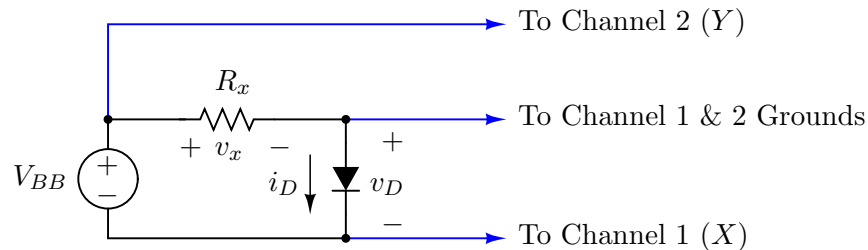

Figure 4: Note that Channel 1 (X) will show $-v_D$ instead of v_D .
2. The voltage on Channel 1 (X) in Figure 4 will be $-v_D$ not v_D . You will need to change the polarity on the scope to display ($-X$) so that positive values of v_D scan to the correctly on the display.
Connect the circuit shown in Figure 4. You are going to use the oscilloscope in the X - Y mode, which is different from the usual time-base sweep mode. We will also use the storage feature on the digital oscilloscope. Here, we want to measure v_D along the x -axis (Channel 1) and i_D (or equivalently v_y) along the y -axis (Channel 2).
Use a 1N4735 diode for this part of the experiment. Connect the circuit of Figure 4 so that you can measure the reversed biased characteristic using the technique of Section 2. Determine the breakdown voltage V_{ZK} and estimate the Zener resistance r_Z .